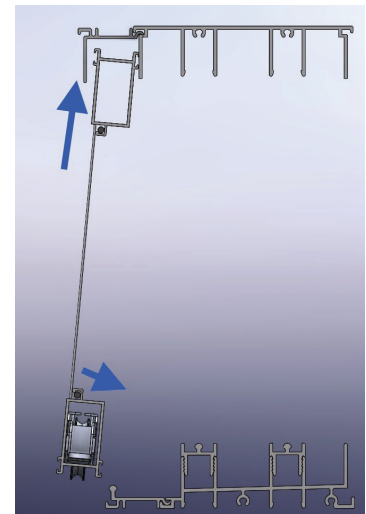

Figure 42
1. **Position** panel so that top of panel slips into frame header channel. Swing bottom of panel in until bottom of panel is aligned over sill spline and set panel on roller spline. (See Figure 42)